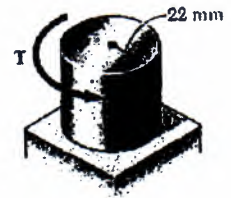

Figure 6
12. Determine the torque  $T$  that causes a maximum shearing stress of 80 MPa in the steel cylindrical shaft as shown in figure 6.